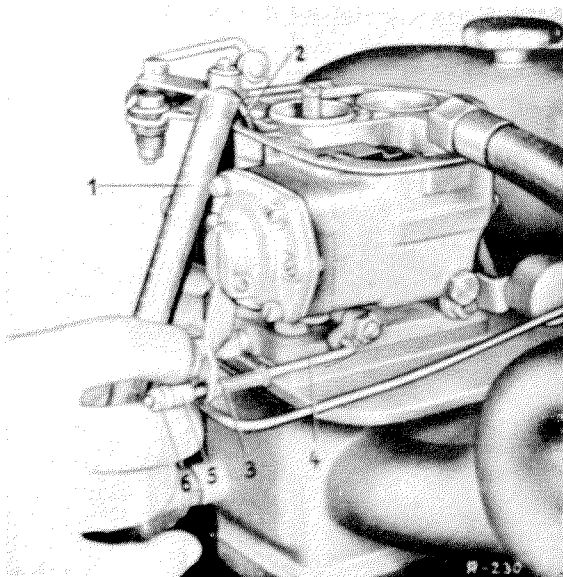

Fig. 01—3/37
10. Check the injection amount by repeating the injection five times. Use a suitable graduated tube or Graduated Tube (Burette) 000 589 31 21 (see Fig. 01—3/37).